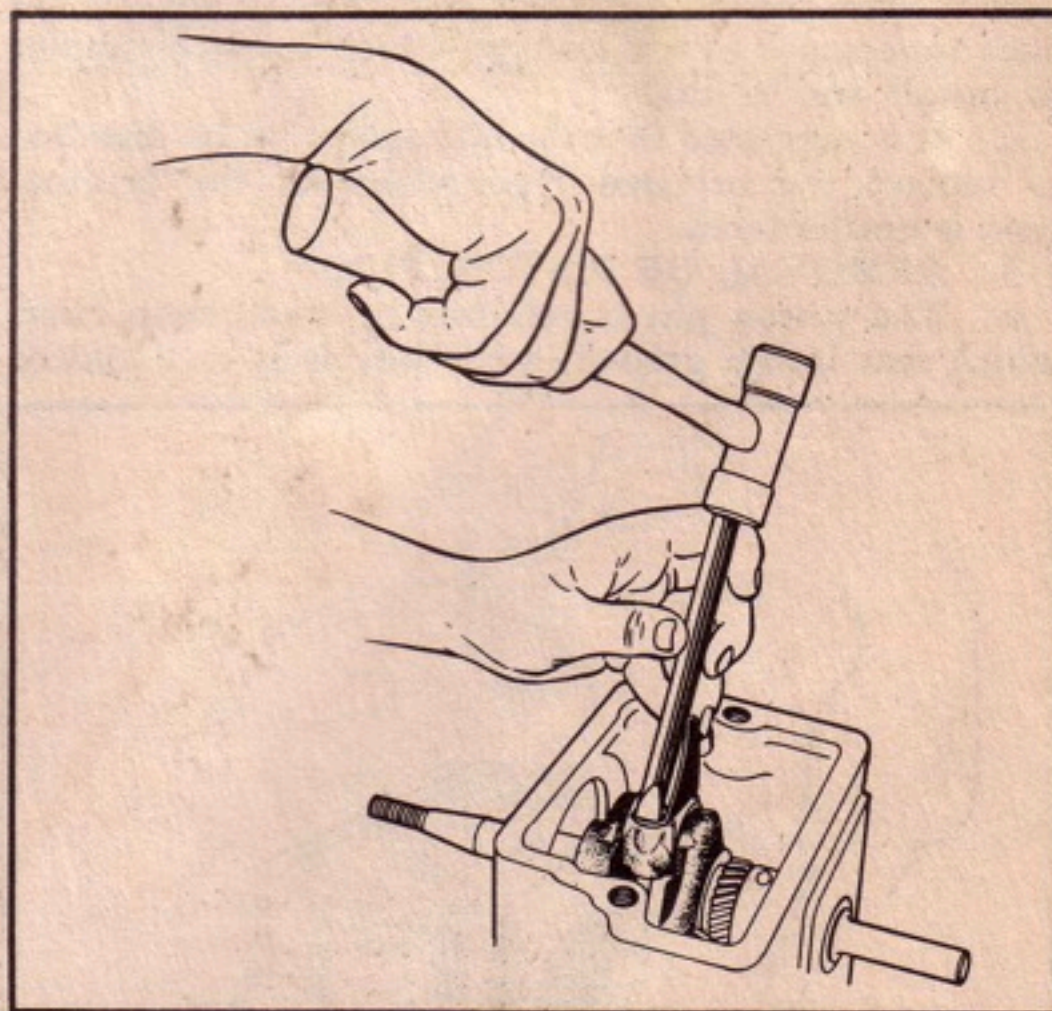

Figure C-2. Removing Connecting Rod Bolt Locks
11. Remove connecting rod and piston assembly. (See figure C-2, for method of releasing connecting rod bolt locks.)